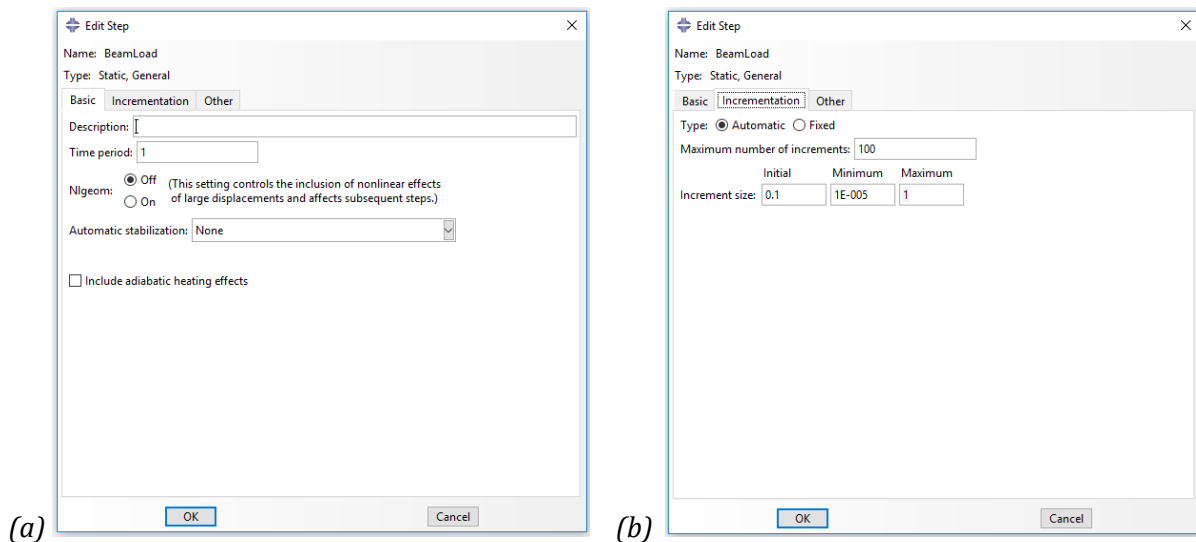

Figure 1-17 – The Edit Step dialog box. (a) Basic tab and (b) increment tab.
The **Edit Step** dialog box appears. See Figure 1-17.
- a. In the **Time period** field of the **Basic** tab page, enter **1**. Let **Nlgeom** (Non-linear geometry) be turned off. See Figure 1-17(a).
- b. Click the **Incrementation** tab, and delete the value of **1** that appears in the **Initial** text field. Type a value of **0.1** for the initial increment size. See Figure 1-17(b).